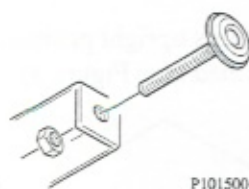

FIGURE 6: INSTALLING LEVELER ON LEG
- 8) Install the hex nut half-way up on each leveler. Install leveler with nut onto each leg (see figure 6).